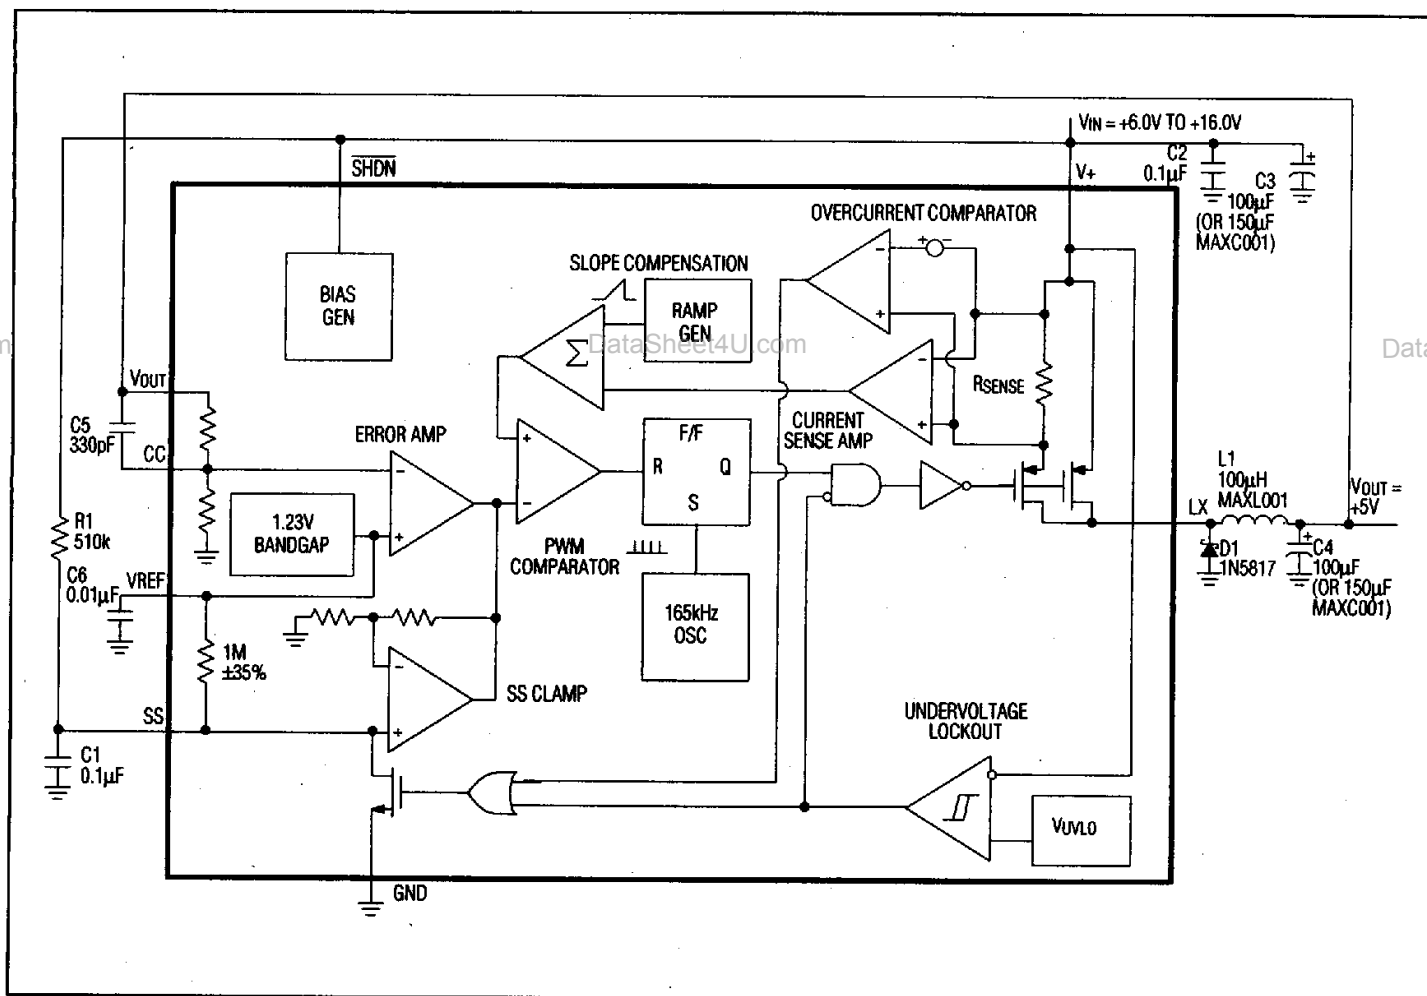

Figure 1. MAX730/MAX738 Detailed Block Diagram with External Components
The controller consists of two feedback loops: an inner (current) loop that monitors the switch current via the current-sense resistor and amplifier, and an outer (voltage) loop that monitors the output voltage through the error amplifier (Figure 1). The inner loop performs cycle-by-cycle current limiting, truncating the power transistor on-time when the switch current reaches a predetermined threshold. This threshold is determined by the outer loop. For example, a sagging output voltage produces an error signal that raises the threshold, allowing the circuit to store and transfer more energy during each cycle.
Figures 1 and 2 show a capacitor and a resistor connected to the Soft-Start (SS) pin to ensure an orderly power-up. Typical values are 0.1µF and 510kΩ. SS controls both the SS timing and the maximum output